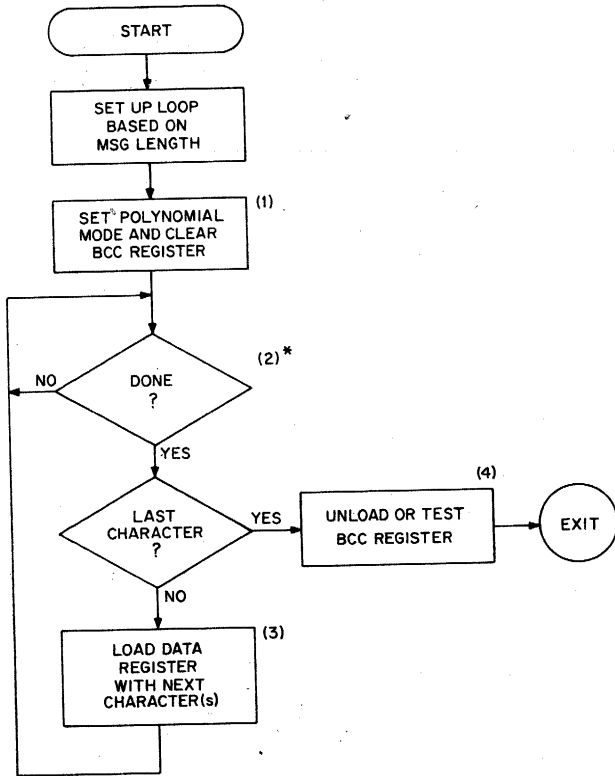

Figure 1
Figure 1 is a flow chart of the recommended practice (complete BCC). The numbers in parenthesis represent the KG11-A operations.
Initialize KG11-A ((1) in Figure 1)
The purpose of this indicator is to tell the KG11-A if the data register will be loaded each time with a word (16 bits) or a byte (8 bits). Bit 3 (DDB) selects word (DDB = 1) or byte (DDB = 0). Even if characters are being accumulated, the program loop (Figure 1) is shorter if the characters can be presented two-at-a-time (WORD option).
Test for KG11-A Completion ((2) in Figure 1)
Load Data Register With Next Character(s) ((3) in Figure 1)
Unload BCC Register ((4) in Figure 1)